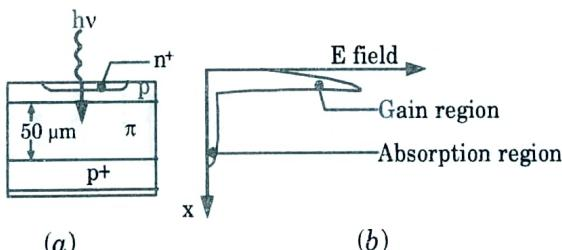

Fig. 4.13.1. (a) Structure of a silicon RAPD. (b) The field distribution in the RAPD showing the gain region across the $p-n^+$ junction.
1. The silicon reach through APD consist of $p^+-\pi-p-n^+$ layers as shown in a Fig. 4.13.1.
2. In the Fig. 4.13.1(b), the high field region where the avalanche multiplication takes place is relatively narrow and centred on the $p-n^+$ junction.